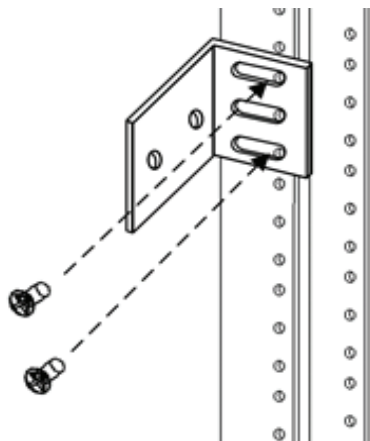

Figure 1
- 3) Using #12-24 (or other appropriately sized) rack mounting screws, attach (1) mounting bracket to rack rail. (Figure 1).